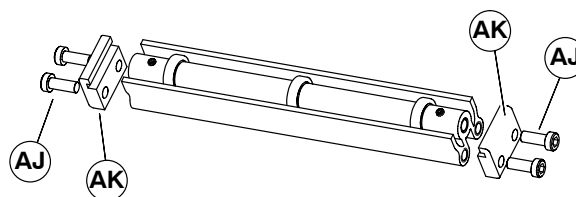

Figure 14
1. Locate return rollers. Exploded view shown in Figure 14.
2. Remove screws (AJ of Figure 14) and clips (AK) from roller assembly.